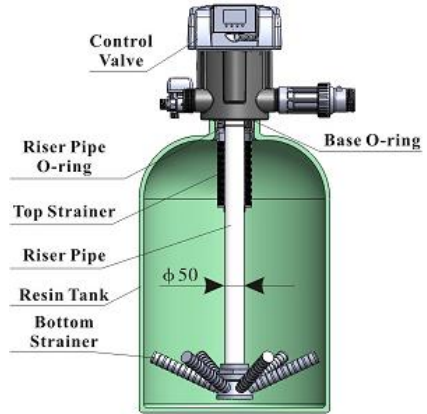

Figure 1-1
- ① Install control valve
a. As the Figure 1-1 shows, select the riser pipe with 50mm OD, glue the riser pipe to the bottom strainer and put it into the mineral tank, cut off the exceeding tube out of tank top opening. Plug the riser tube in case of mineral entering.